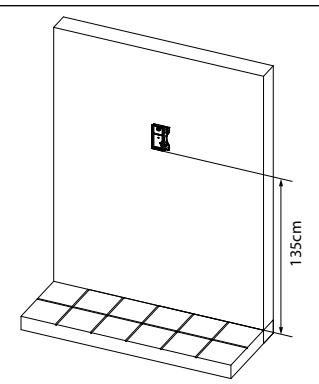
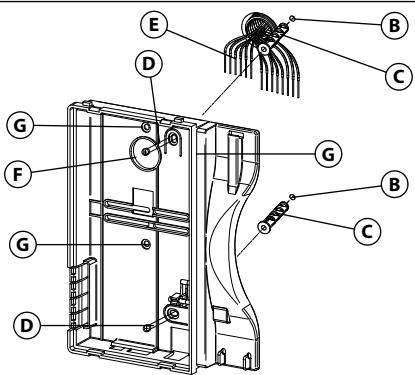

Fig. 3
Fig. 4
- Put the base of the unit on the wall at approx 135cm from the finished floor (**Fig. 3**) to mark the points for the fixing holes **B** (**Fig. 4**) remembering that the wires **E** (**Fig. 4**) must be fed through the hole **F** (**Fig. 4**). If you use the flush mounting box 503, embed it into the wall vertically at approx. 140cm from the finished floor and the base.
- Following **Fig. 4**, make the holes **B**, insert the wall plugs **C** and fix the base with the screws **D** feeding the wires **E** into the hole **F**. If you have used the box 503, fix the base to the wall through the holes **G** using the screws **D**.